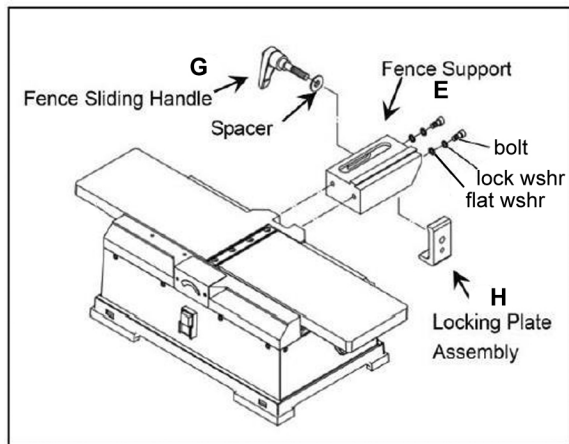

Figure 8-1
Attach fence support (E, Figure 8-1) to planer with two M6x16 socket head bolts, flat washers and lock washers.
Secure plate in position with fence sliding handle and spacer (G, Figure 8-1).
Slide fence and bracket over and onto dovetails of support (E) and locking plate (H, Figure 8-1)
Continue to slide fence forward so that the fence is over the planer tables. At this position the edge of the blade guard will rest against the fence, and the entire width of the cutter head is covered. Secure bracket in position with fence sliding handle (G, Figure 8-1).